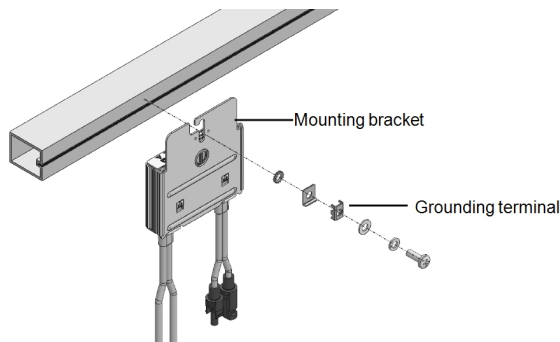

Figure 8: Power optimizer grounding terminal
- For mounting on un-grounded structures** (such as a wooden structure): If the star washer or the plate cannot be used, use the SolarEdge grounding lug (purchased separately) with an equipment-grounding conductor according to the supplied instructions. The grounding terminal accepts a wire size of 6-14 AWG, and must be sized for equipment grounding per NEC 250.122 requirements. Tighten the screws connecting the power optimizer to the frame and the grounding terminal screw. Apply torque of 9.5 N\*m / 7 lb\*ft. See *Figure 8*.